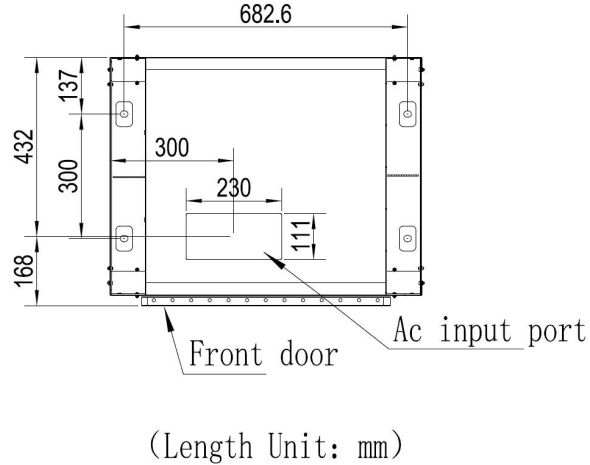

Figure 2: Bottom view and ports
3.1.2 Bottom view and ports, as shown in Figure 2.